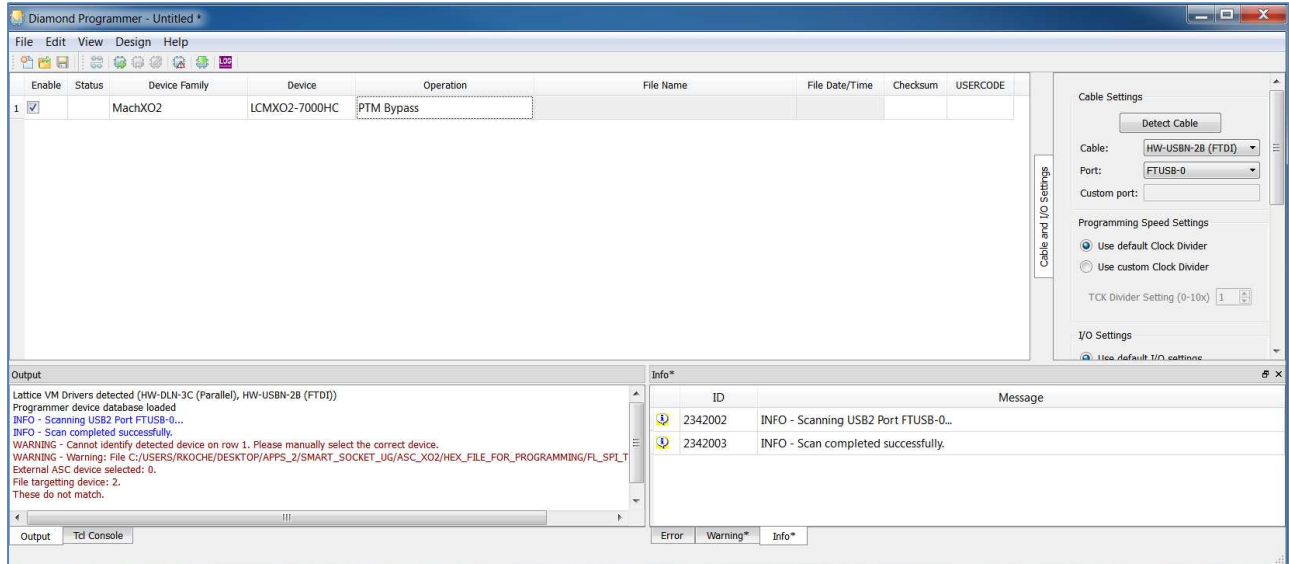

Figure 5.19. ASC Socket – Warning for MachXO2
7. Click **OK**. The same warning appears in the output console window as shown Figure 5.19.